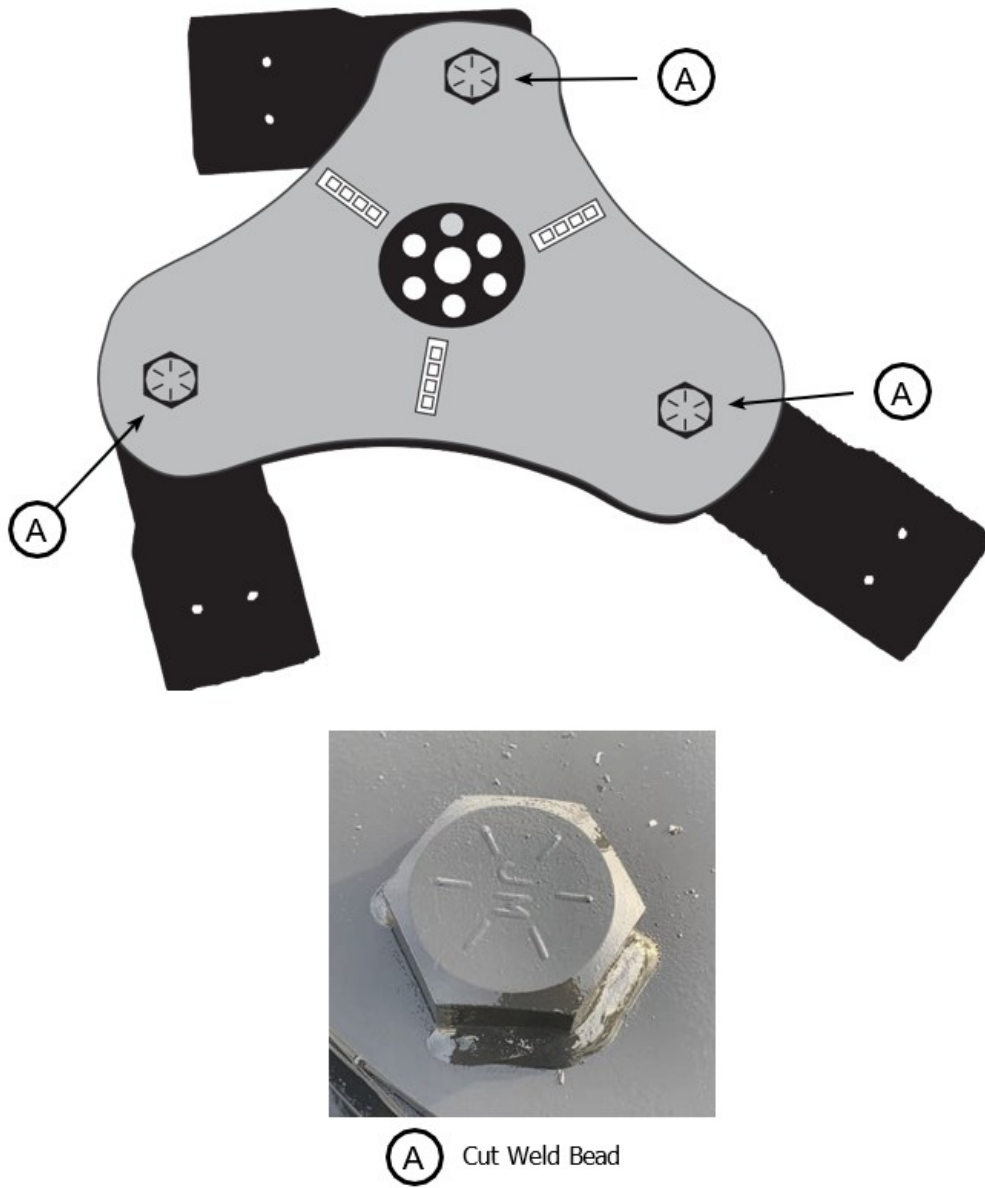

FIGURE 4.6A - BOLT SHANK REMOVAL FROM BLADE HOLDER
2. Carefully cut the welded bead around the bolt head to allow the bolt to rotate. DO NOT cut into the blade holder (see Figure 4.6a on next page).